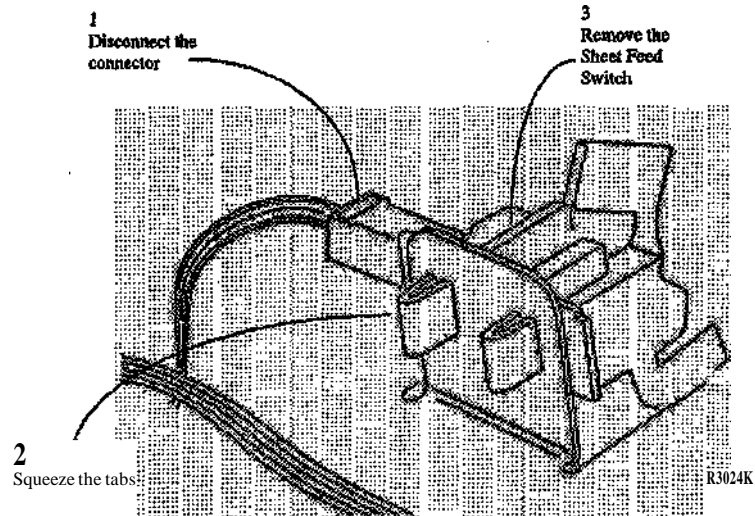

Figure 1. Removing the Sheet Feed Switch
7. (Figure 1): Remove the Sheet Feed Switch.